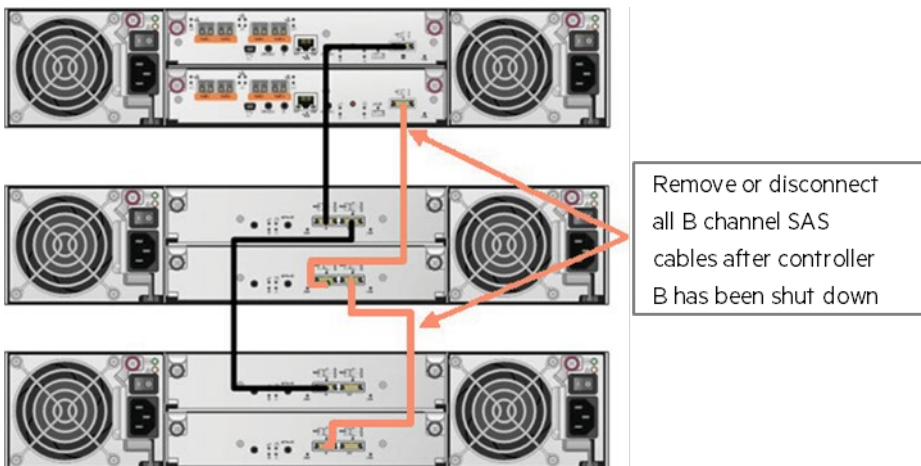

**Figure 27.** Extended straight-through cabling configuration
4. Connect the new SAS cable (Figure 27, orange cable) from the A port (Out) of the current MSA storage system to the A port (In) of the new storage enclosure.
7. Connect the new SAS cable (Figure 27, purple cable) from the B port (Out) of the current MSA storage system to the B port (In) of the new disk enclosure.